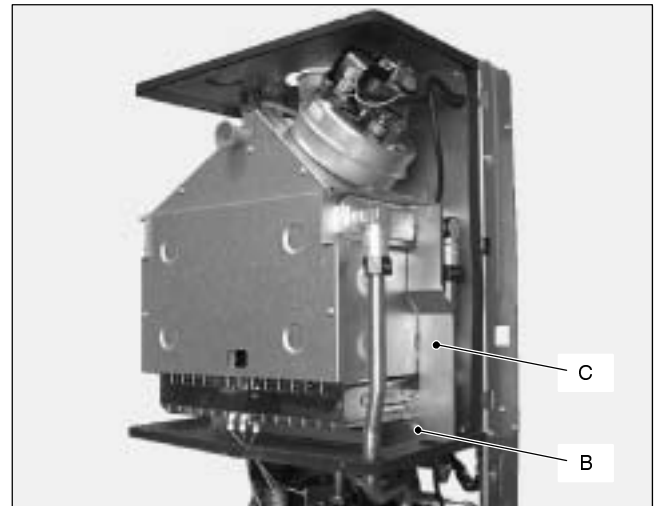

Fig. 76
- 1b For models M90.28S and M90.28SR, remove the screw *B* and the plate *C* (Fig. 76).